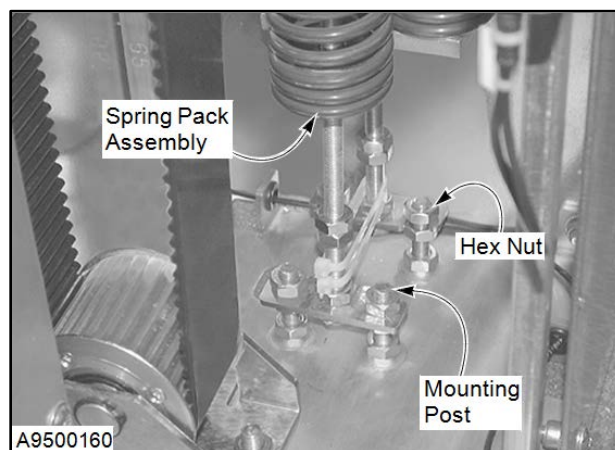

Figure 53
5. Disconnect the associated spring pack assembly from the base plate. To retain the preload setting of the spring pack, loosen only the lower hex nut on each mounting post. (See Figure 53.)